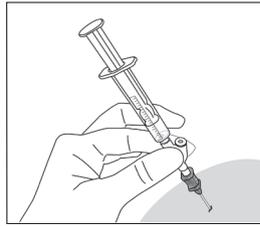

Figure 2
- ⚠️ **Caution:** Do not move introducer needle while holding securely at Y-hub or syringe (refer to Figure 2).